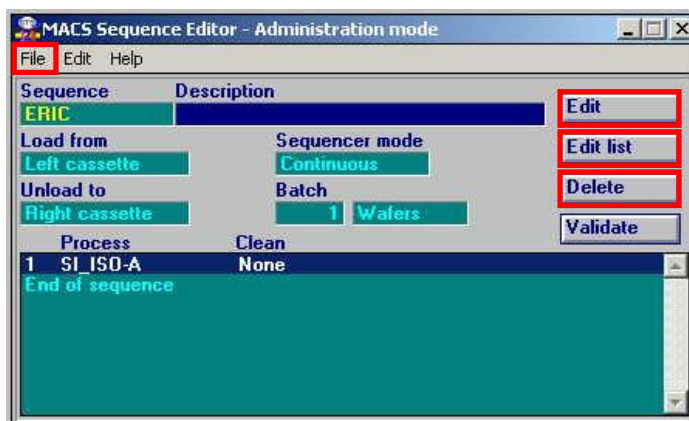
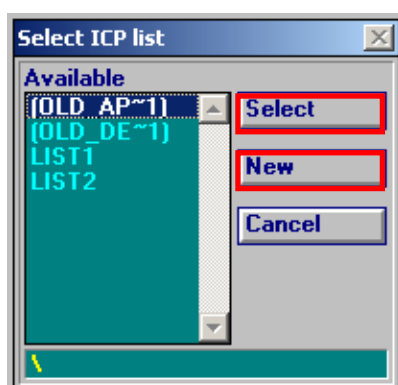

Fig.14: Sequence Editor
Fig.16a: *Select ICP list* window
5.3.1 The easiest way to make a new sequence is to take an existing sequence, save it under a new name, and edit the new sequence. Press **Open** in the Sequencer window (Fig.13) and select any existing sequence. In the same window press **View** to activate the Sequence Editor (Fig.14). Via **File/Save** save the existing sequence with a new name (8 characters maximum).
5.3.5 In the *Sequence Editor* window (Fig.14) check or adjust the batch size, the number of wafers to be processed. It should correspond to the number of wafers present in the left cassette. Note that empty slots in the cassette, even between wafers, will be ignored.
5.4.2 In the *Sequence editor* window (Fig.14) press the **Edit list** button, a *Select ICP list* window (Fig.16a) will show up.
5.4.6 In the empty sequence (*Sequence editor* window, *Fig.14*), press the **Edit** button now. In the *Edit step* window (*Fig.15a*) that shows up, press the **Select** button to select your list in the *Step recipe* window (*Fig.15b*). It shows recipes and lists together, lists can be identified by name and extension [*List*] following the name.